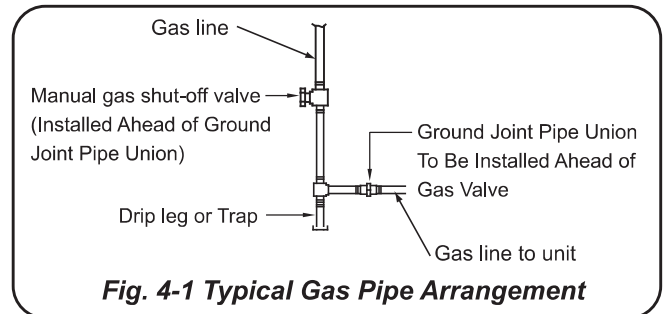

Fig. 4-1 Typical Gas Pipe Arrangement
2. Connect the gas line to the gas pipe inlet opening provided into the 1/2" inlet valve. See Fig. 4-1 for typical piping.